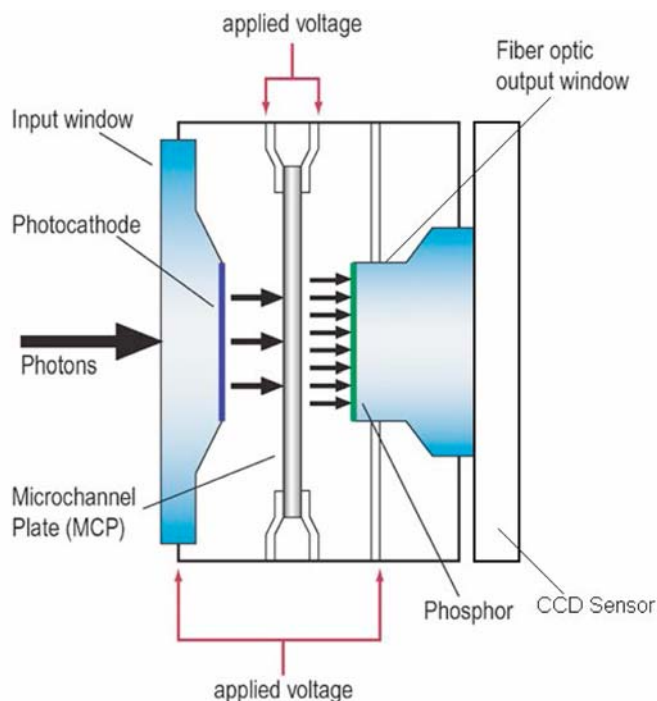

FIG. 9 Schematic of a Typical Intensifier Fiber Optically Coupled to a CCD Sensor
**indium tin oxide (ITO)**, *n*—a transparent conductive material used in some CCD designs to provide an increase in quantum efficiency (QE) in the blue-green region of the spectrum.
**intensified CCD (ICCD)**, *n*—a type of CCD camera that has an intensifier block attached in front of it. An ICCD is used to amplify the incoming signal without varying the image size so as to provide single-photon sensitivity and it can be electronically gated down to nanosecond ranges (see Fig. 9).